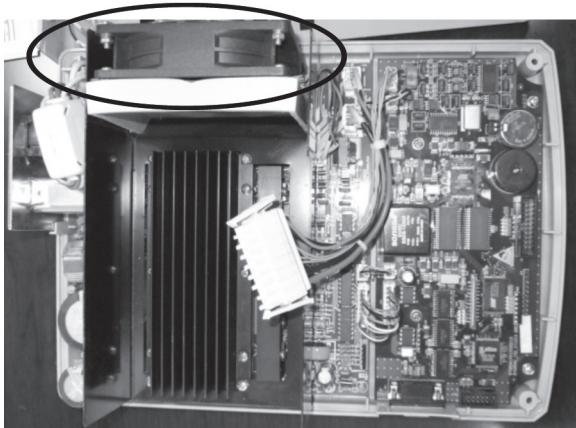

Fig.2
2.1.2 The location of the fan is as Fig.2